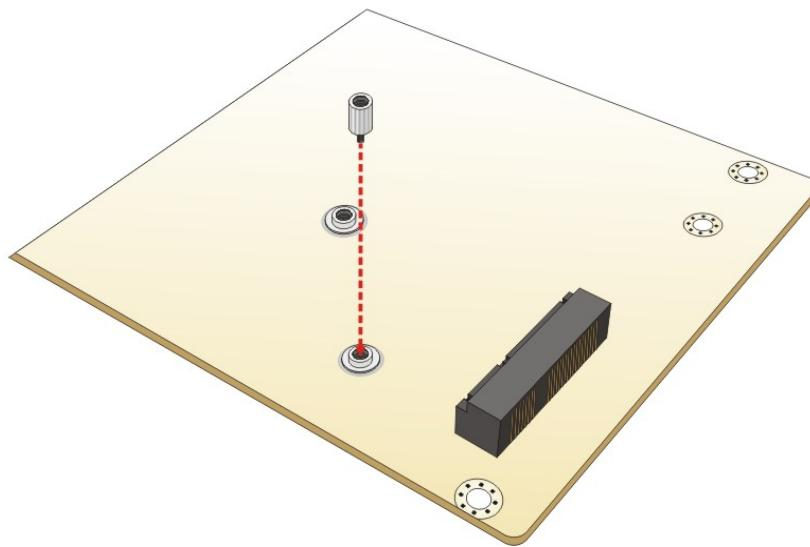

Figure 3-10: Installing the Standoff
**Step 3:** Install the previously removed standoff to the screw hole for the half-size PCIe Mini card (**Figure 3-10**).